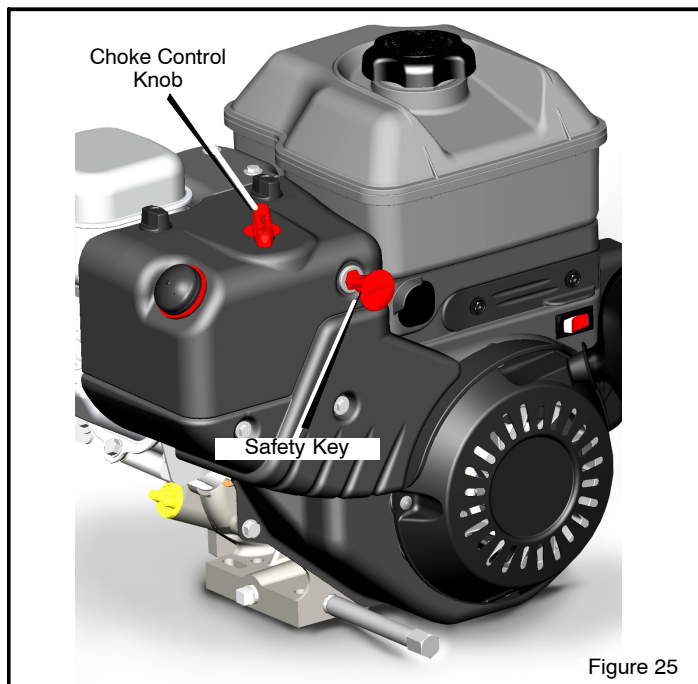

Figure 25
1. Remove the choke control knob (see Figure 25).